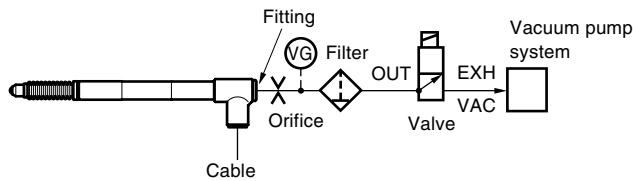
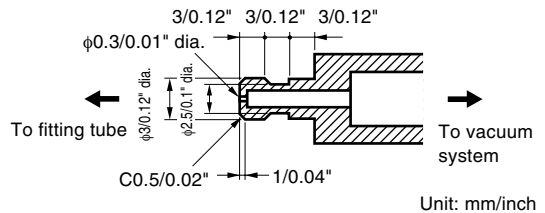

Fig.1 Air-pass System
Fig.2 Dimensions of Orifice
- In operating the feeler with a vacuum pump, use such an air-pass system as shown in Fig. 1 to enable air driving. The optimum vacuum rate is 40 to 66.7 kPa. Further, put such an orifice as shown in Fig. 2 on a tube from the air lifter connector to control the air suction and discharge speed. The feeler is lifted at the air discharge to the vacuum pump.